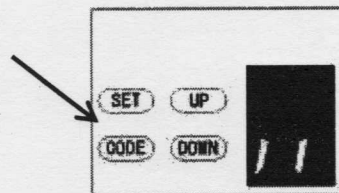

Figure 5
- a) Press the "Code" key on the display of your garage door operator. A dot (.) will appear in the corner. (Fig.5)